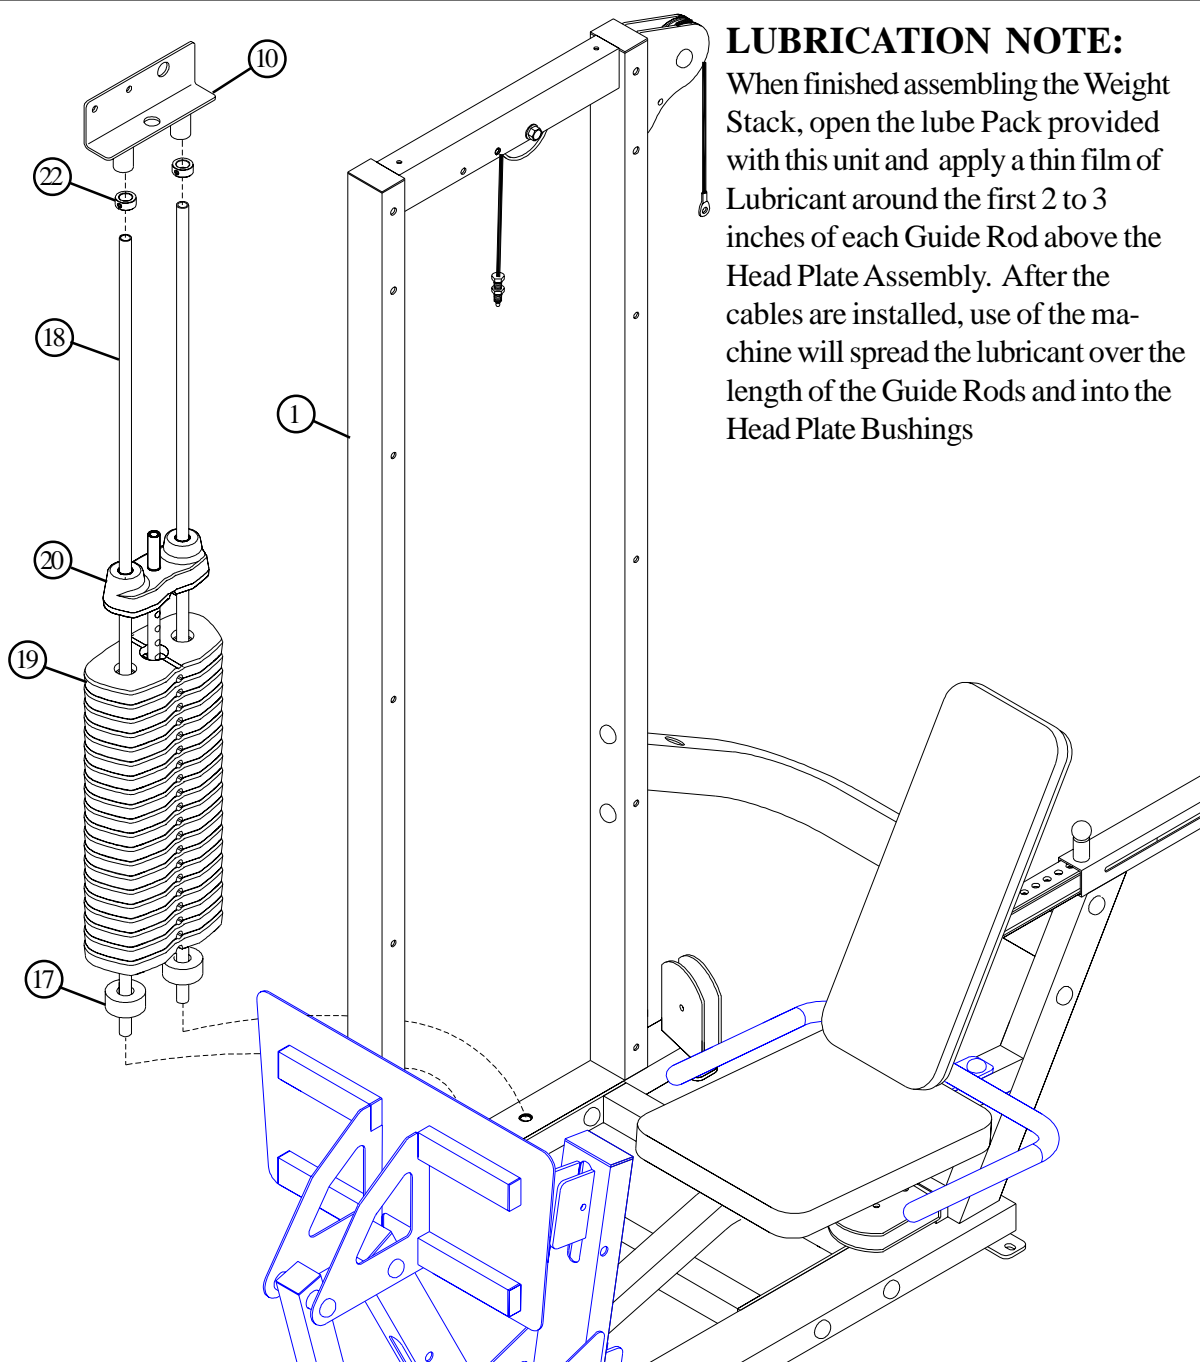

FIGURE 9
- Insert two GUIDE RODS (18) into the TOWER (1) as shown on FIGURE 9.
- Slide two 3/4 X 2" WEIGHT STACK CUSHIONS (17) down over the GUIDE RODS (18) as shown in FIGURE 9.
- Using **EXTREME CARE** slide all twenty WEIGHT PLATES (19) down over the GUIDE RODS (18) on to the WEIGHT STACK CUSHIONS (17). Make sure that the WEIGHT PLATES (19) are all facing as shown.
- Slide the HEAD PLATE ASSEMBLY (20) down over the GUIDE RODS (18) onto the weight stack as shown in FIGURE 9.
- Slide two 13/16" SHAFT COLLARS (22) and the GUIDE ROD SUPPORT (10) over the GUIDE RODS (18) as shown in FIGURE 9.